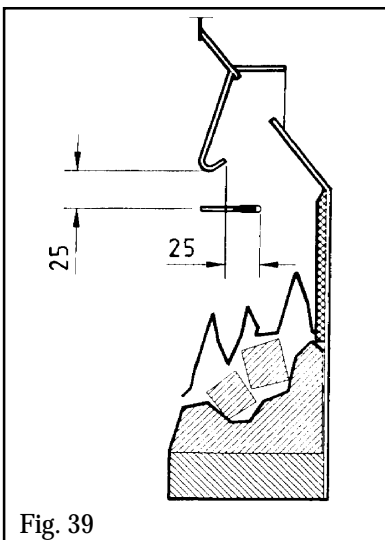

Fig. 39
- Place the smoke match tube into the burner box below the hood (see figure 39).